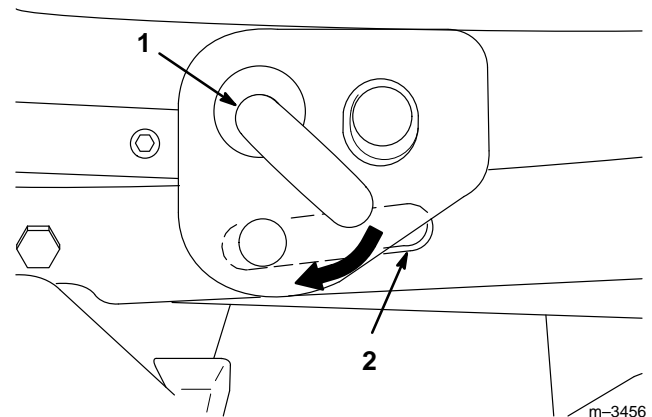

Figure 6
6. Lower the attachment lift arm fully and adjust the deck’s position until you can pull out on the J-pin of the lift arm and slide it into the slot in the mounting bracket of the mower (Fig. 6).